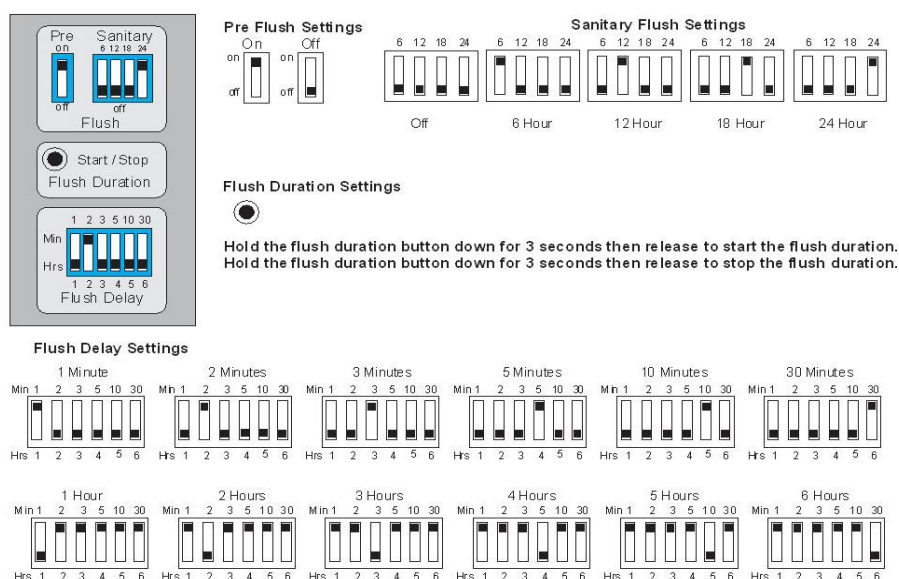

Fig. 8 Switch board
- To alter these settings, take apart the housing to expose the dip switches (Fig. 8).
1. Set the pre-flush to either "On" or "Off" (Fig. 8).
1. Set the pre-flush to "Off" (Fig. 8).